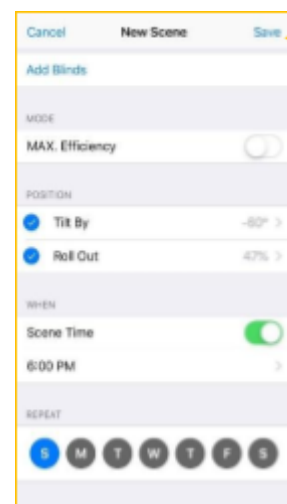

Figure 30
**10.7.4.** Click **Save** to save changes (Fig. 30).